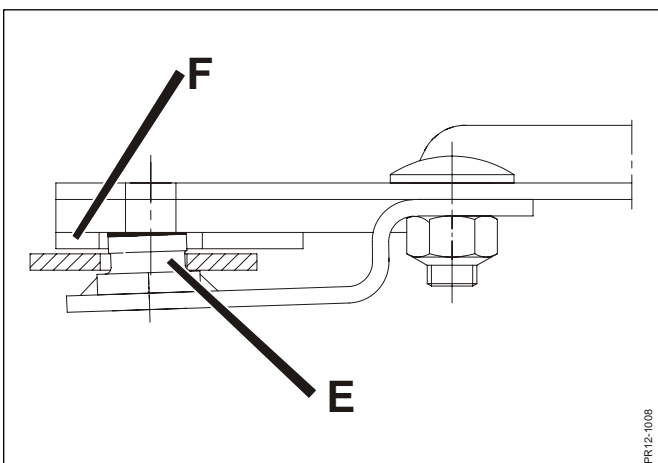

Fig. 5-23
**Fig. 5-23** -There are no impurities between the contact faces of the blade pin and the disc, and that the blade pin **E** of the blade holder has correct contact with the bottom of the disc **F**.